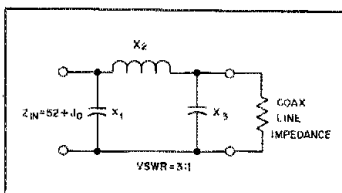

Fig. 3 — A pi network for matching two impedances. With this circuit the loaded Q can be determined in advance.
Reactance Values for PI Network in Fig. 3
In contrast, a pi configuration can be designed to provide the same impedance transformation with any desired Q_L , subject only to the practicality of large capacitances. The table indicates the reactance values for the pi network of Fig. 3, and is keyed to the three limiting cable input impedances that correspond to a VSWR of 3.
Fig. 3 — A spring-return, center off, dpdt switch allows remote, motor-driven tuning (A) with 117-v ac instrumentation servo motors, and (B) with automobile window-control motors.